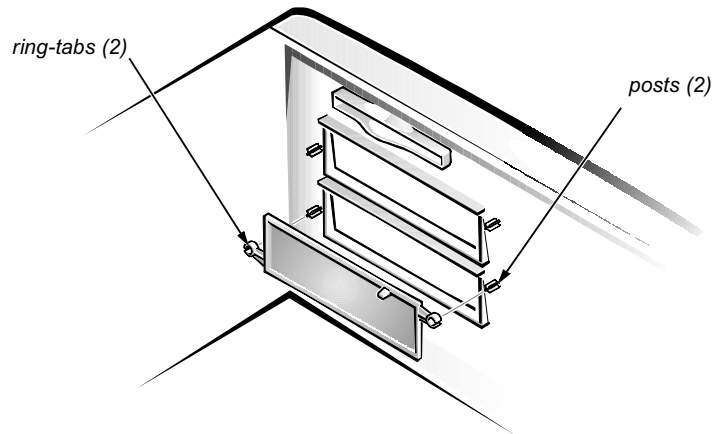

Figure 10-2. Removing the Front-Panel Insert for a 5.25-Inch Bay
- 3. With your thumbs, press in on each end of the insert until the insert snaps free of the cover (see Figure 10-2).**
To replace a front-panel insert for a 5.25-inch bay, work from inside the cover. Insert the two ring-tabs (one on each end of the insert) over the posts on the inside of the bay opening, and firmly press both ends of the insert into place (see Figure 10-2).